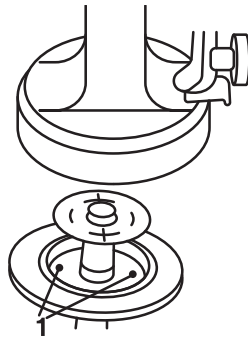

Fig11
- Preclean the container and feed tube with a brush. Clean the ventilating bore (Fig. 11, 1).